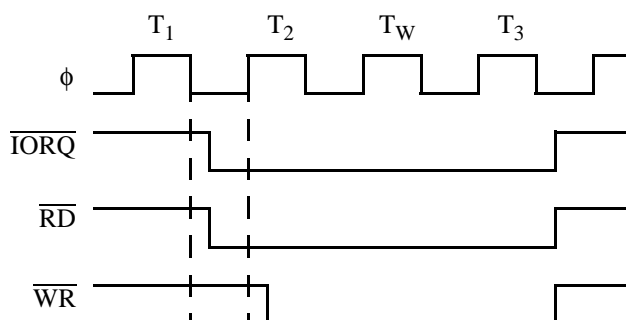

Figure 11. I/O READ and WRITE Cycles with  $\overline{IOC} = 1$
**IOC**—This bit controls the timing of the  $\overline{IORQ}$  and  $\overline{RD}$  signals. It is set to 1 by RESET. When  $\overline{IOC} = 1$ , the  $\overline{IORQ}$  and  $\overline{RD}$  signals function the same as the Z64180 (Figure 11).